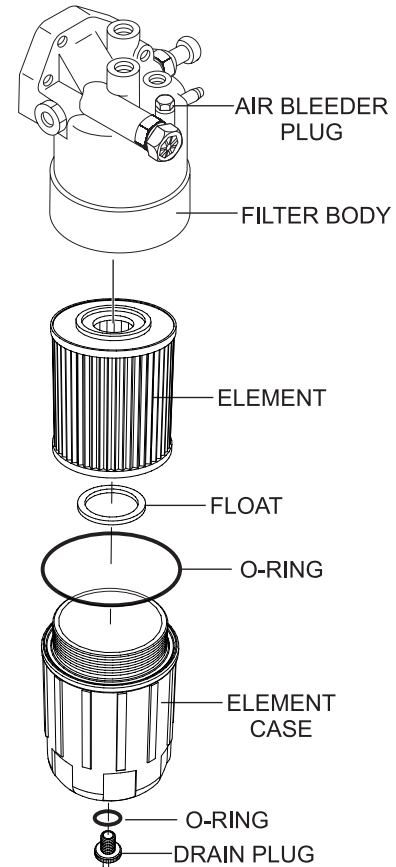

Figure 58. Fuel Filter Replacement
1. Use a filter wrench to remove the element case (Figure 58) from the fuel filter body.